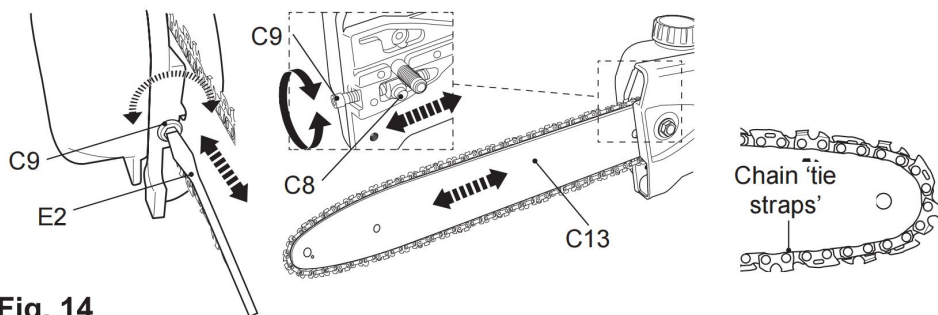

Fig. 14
3) Screw the tension screw (C9) clockwise or anti-clockwise to adjust the tension pin (C8) / guide bar (C13) until the chain 'tie straps' are just touching the bottom edge of the guide bar (Fig. 14).